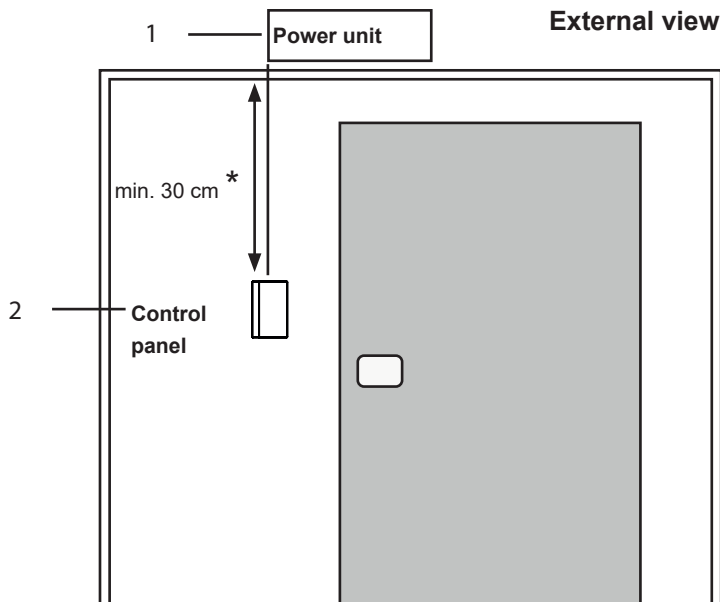

Fig.4 Control panel position
The control panel 2 is installed on the cabin wall at a maximum distance of 10 metres from the power unit 1 (see **Fig.4**).
*For installation inside a sauna cabin, maintain a minimum distance of 30 cm to the ceiling. (see **Fig.4**).